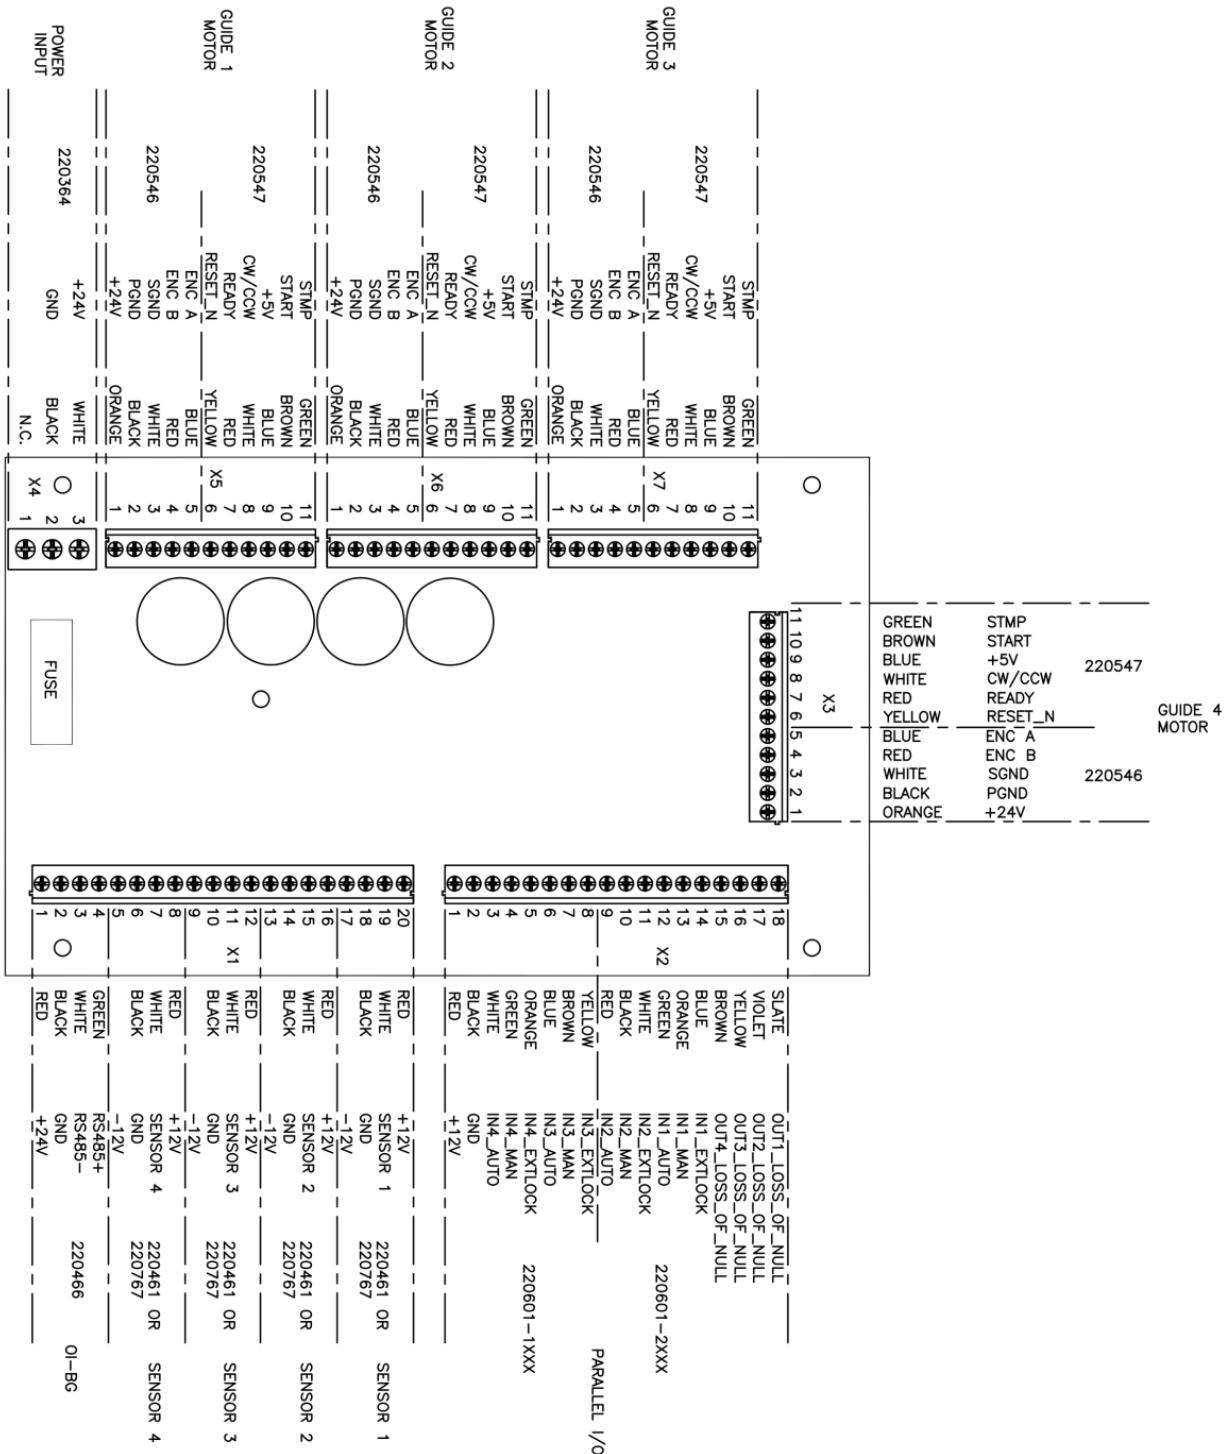

Figure 14. Controller connections for guides and sensor types SE-47, SE-11, SE-22, SE-44R, or SE-31.
- Connect the wires from each cable to the appropriate terminal block pins as shown in the connection diagram in Figure 14 or Figure 15 on the following pages.
- Each cable is marked with a part number and the cable part number is shown in Figure 14 or Figure 15.
- Figure 14 shows the connections for the motor and the sensors SE-47, SE-11, SE-22, SE-44R, and SE-31.
Refer to Figure 14 and Figure 15 for the controller connections and the parallel I/O cable drawing 220601.